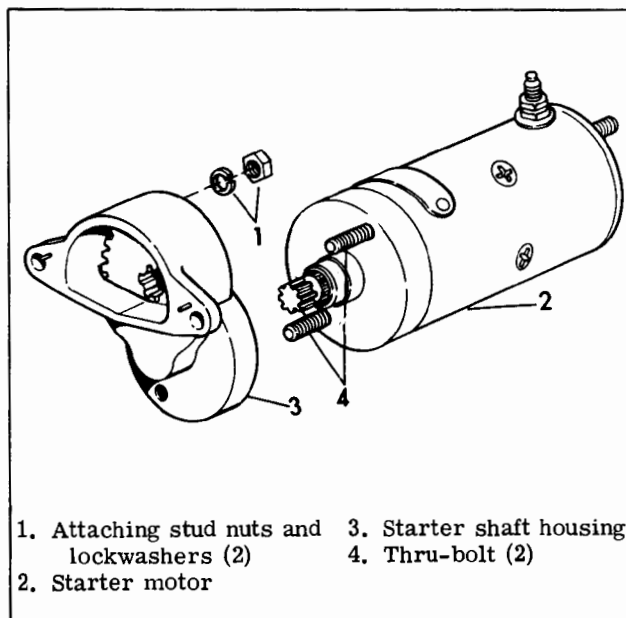

Figure 5-23. Removing Starter Motor
Disconnect solenoid cable from starter motor terminal. Remove attaching nuts and lockwashers (1, Figure 5-23) which fasten starter motor housing (3) to studs on chain housing. Remove starter motor end support plate (not shown) from transmission. It may be necessary to loosen and raise battery carrier to provide clearance. Remove starter motor (2) and starter shaft housing (3) from motorcycle as an assembly.